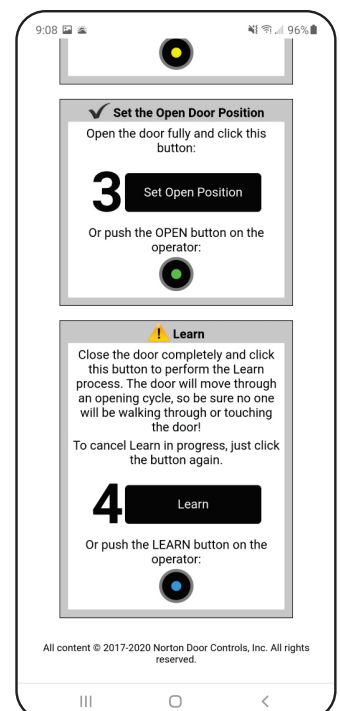

Figure 34
2. Open door to the fully open position. Holding the door in this position, select “Set Open Position” in Step 3. (Figure 34)
3. Manually close the door and select “Learn” in Step 4 to initiate the Learn process. (Figure 34)